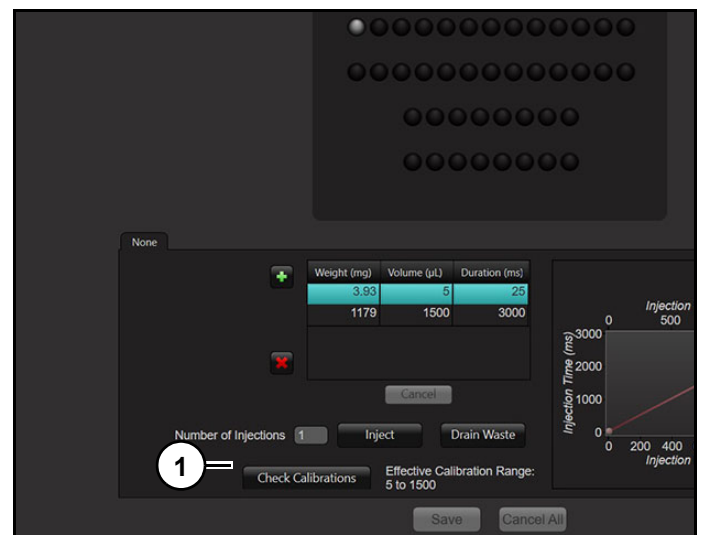

Figure 18
- Click "Check Calibration" (1) (Figure 18).